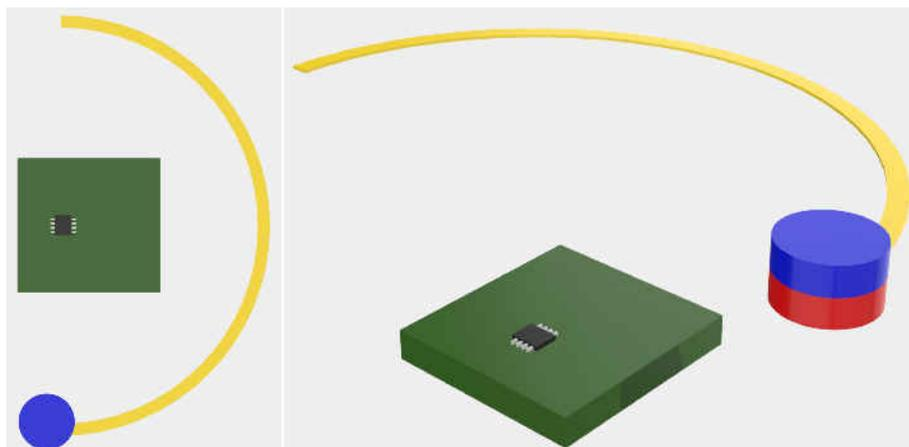
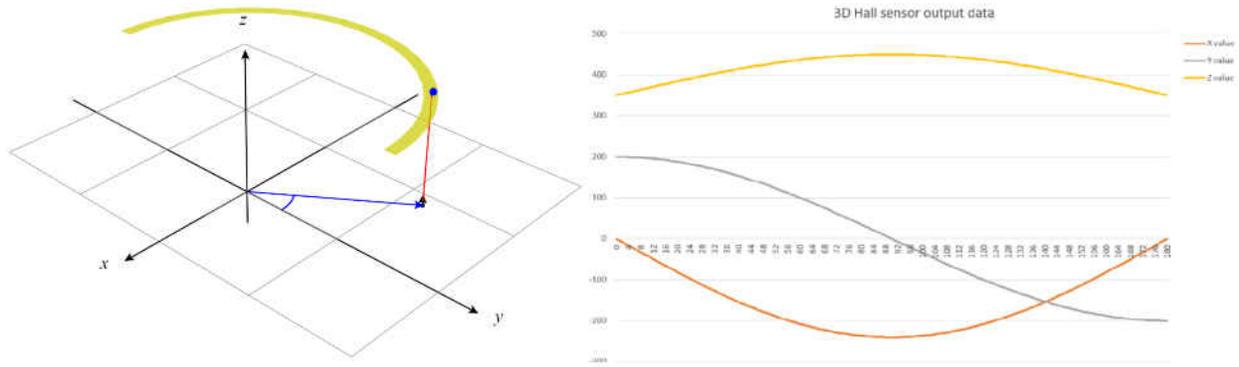
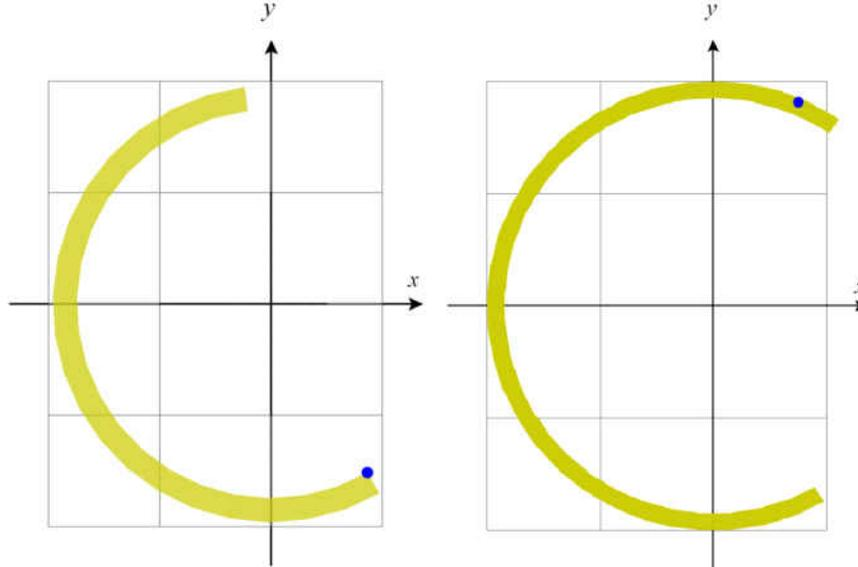
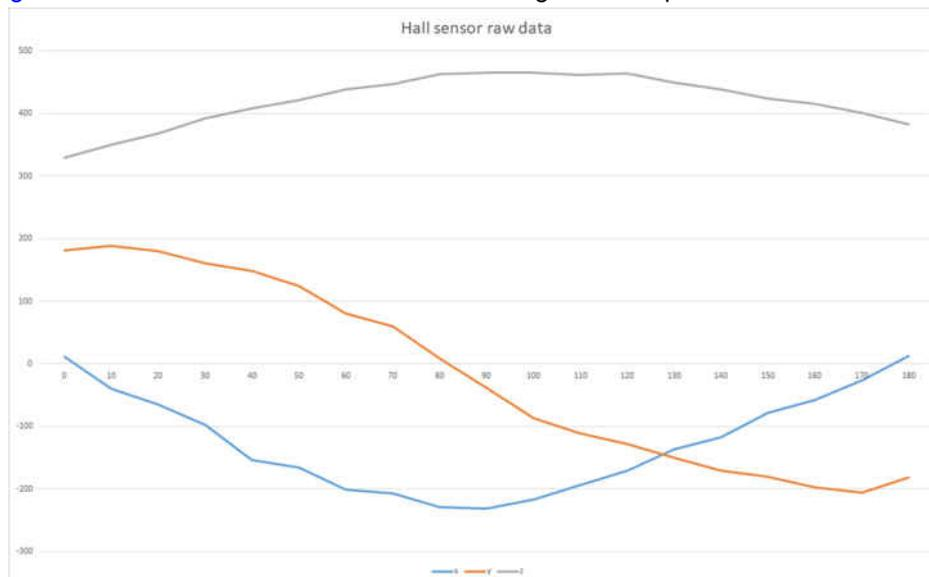

Figure 4-2. Magnet Position Trace After Collision
Figure 4-3. Angle Calculation and Output Data Waveform of Hall Sensor
Figure 5-1. Magnet Position Trace Due to Installation Error
Figure 5-2. Hall Sensor Output Raw Data From 0° Through Approximately 180° of Collision
When a collision occurs from 0° ~ 180° , the magnets position over the hall sensor would follow a similar path in 3D space path as shown in yellow trace on Figure 4-2. If a 3D linear hall sensor, like TMAG5170, is placed under magnet Figure 4-3 shows the waveform collected by this event. Note that the waveform shape is depended on hall sensor, mounting setup, direction, and the magnets direction.
- Error in installation position and direction error of Hall sensor board. For example, the Hall sensor is not directly under magnet and its axis does not coincide with the bumper's central axis. The installation error can cause the magnets movement trace to behave as shown in Figure 5-1. In this instance the measured angle should have been 0° through approximately 180° but due to the shift the result was 5° through approximately 195° and a bigger shift could result in -15° through approximately 195° .
- The bottom of the magnet is not parallel to Hall sensors package. This slight offset will also generate an angle between the magnet and the sensor IC generating an error as seen in Figure 5-1. This shift magnet can also cause the waveform of output data to not be as smooth and symmetrical like the data shown in Figure 4-3. Figure 5-2 shows measured data when the magnet is not parallel to the Hall sensor.